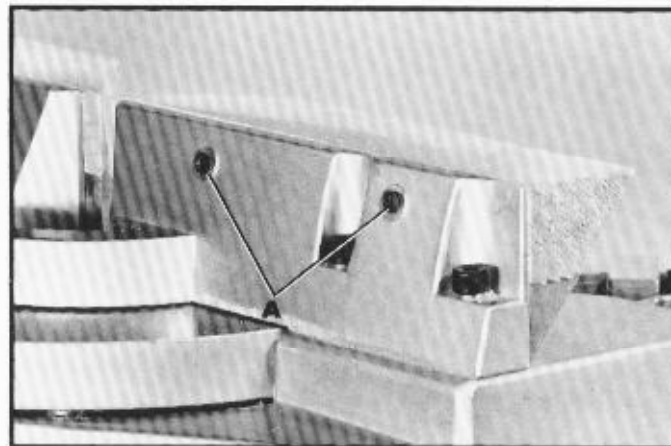

Fig. 54
5. Fasten the filler blocks to the fence using wood screws (A) through the two holes provided on each fence half, as shown in Fig. 54. This enables you to easily remove the filler blocks when not in use and quickly reassemble them to the fence when needed.